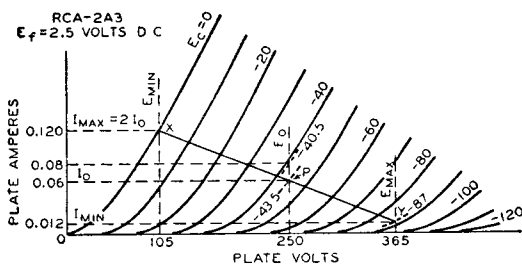

Fig. 20
Calculation of the **power output of a triode** used as a class A amplifier with either an output transformer or a choke having low dc resistance can be made without serious error from the plate family of curves by assuming a resistance load. The proper plate current, grid bias, optimum load resistance, and the per cent second-harmonic distortion can also be determined. The calculations are made graphically and are illustrated in Fig. 20 for given conditions. The procedure is as follows: (1) Locate the zero-signal bias point P by determining the zero-signal bias E_c from the formula:
Example: Determine the load resistance, power output, and distortion of a triode having an amplification factor of 4.2, a plate-dissipation rating of 15 watts, and plate characteristics curves as shown in Fig. 20. The tube is to be operated at 250 volts on the plate.